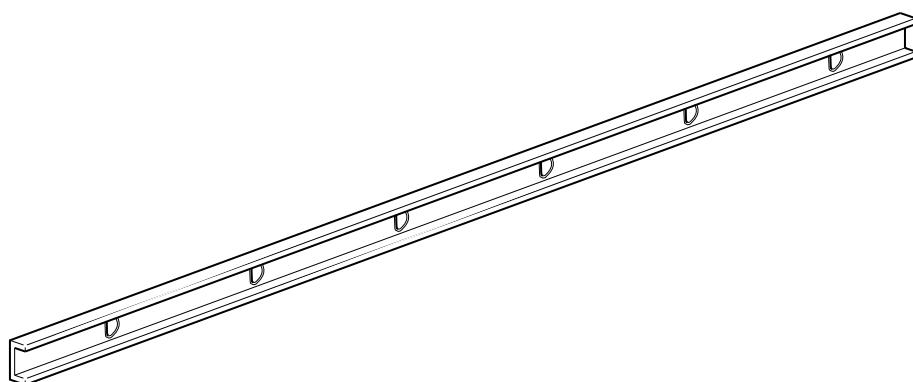

Fig. 7
- (e) Fig. 7 shows one of the side sections of the ladder.
- (i) State a **suitable specific material** for the ladder section shown in Fig. 7.
- (ii) Describe, in detail, how the ladder section shown in Fig. 7 would be manufactured as a batch of 1000.